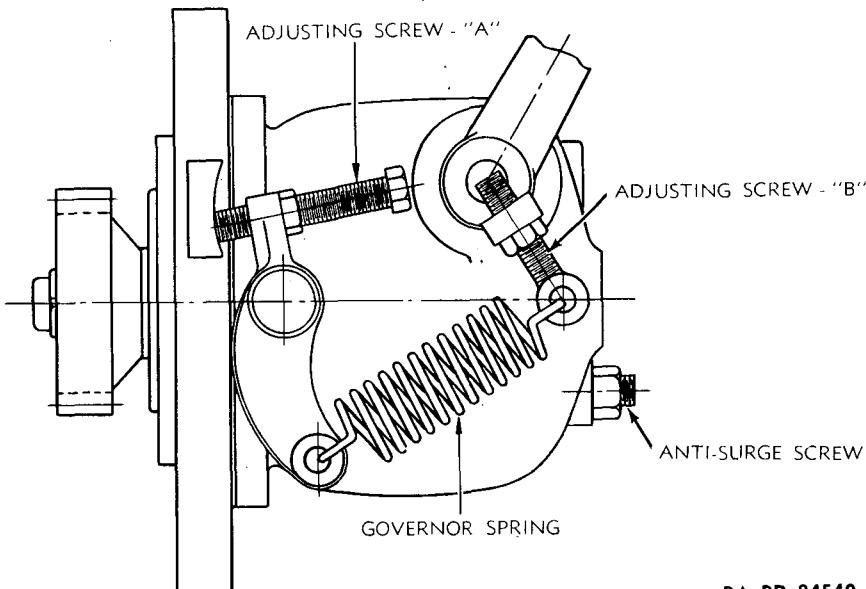

Figure 47—Governor Diagram
(1) To increase speed, increase the spring tension by screwing in adjusting screw "A" (fig. 47). To decrease speed, decrease the spring tension. Be sure to tighten the lock nut after making an adjustment.